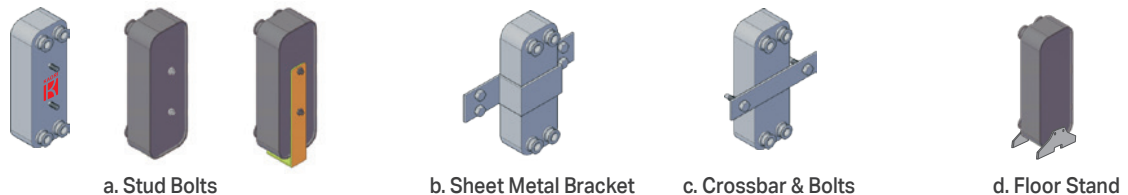

Fig. 2 Fixation way of the brazed plate heat exchanger
2. Recommended installation position(Fig.2)